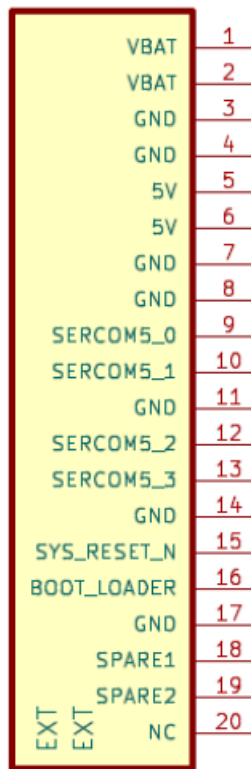

Figure 2: 20 pos FPC Cable (J1)
- **Figure 2:** 20 pos FPC Cable (J1)